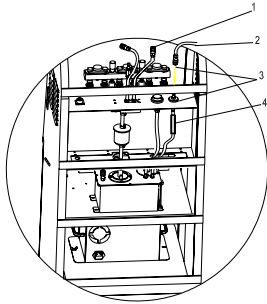

Fig.08
- 7) Connect the engine fuel return pipe to the return pipe of on-vehicle cleaning through an adaptor, and connect the other end of the return pipe with snap-on connector to the connector on top of the unit. See Fig.08 (CNC-801A) for detailed connection.